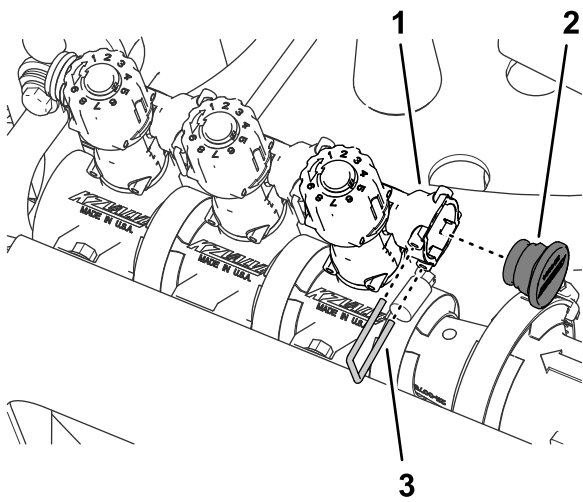

Figure 68
- Assemble plug into the quick connect socket of the bypass valve (Figure 68).
9. Secure the plug to the quick connect socket with the retainer that you removed in step 3 (Figure 68).